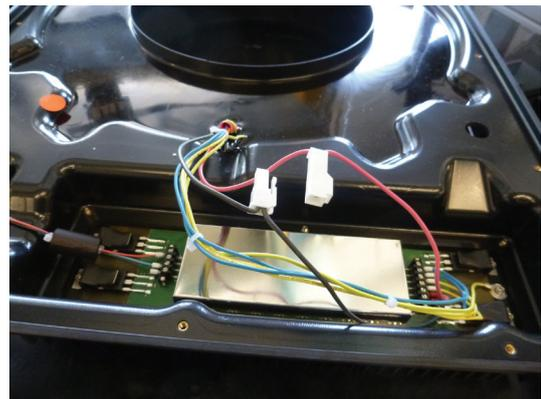

Figure 10: Remove the secondary winding short circuit
- o Remove the secondary winding short circuit by disconnecting the one pin connectors (figure 10).